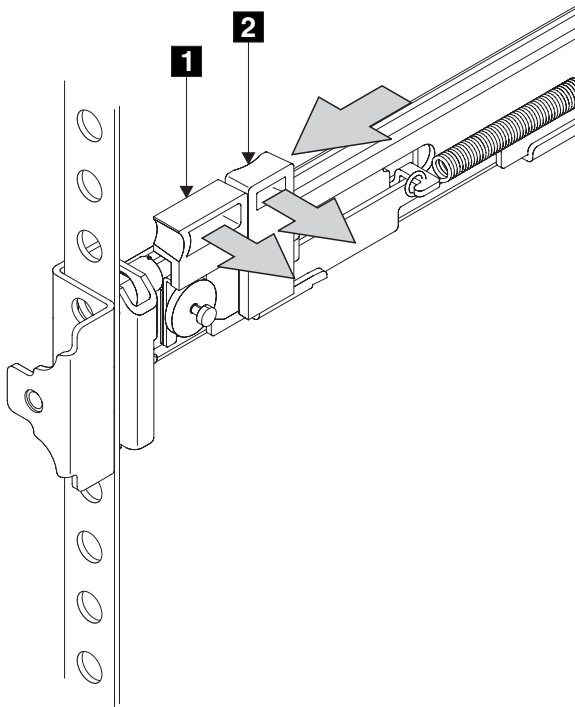

Figure 37. Closing the latch-lock carrier assembly
8. Push the latch lock **2** (Figure 37 on page 64) away from the rail to release the carrier. The latch-lock carrier slides toward the front of the rack, and the locating pins project through the holes that are in the front flange and in the front rail bracket.